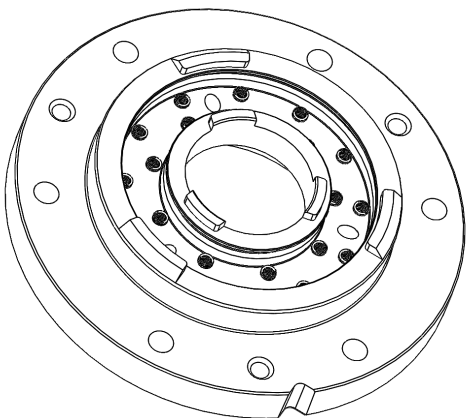

Figure 4 – Spring Installation (Plan 53)
1. Insert springs (153F) into all blind spring holes in cartridge (153R). See Figure 4.